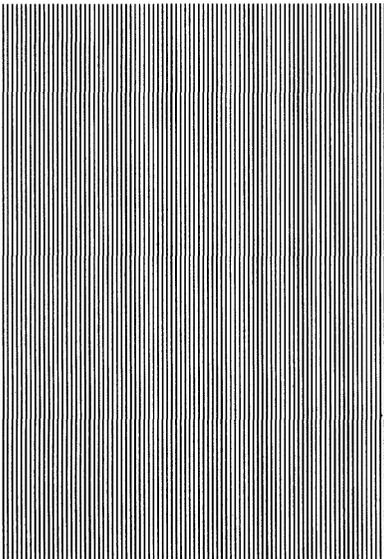

Figure 6-4
- 3) Set the cassette into upper cassette slot. Press the test print button on the front of the printer using a thin stick (for example, M3 Hex Key wrench) and make one test print as shown in Figure 6-4.